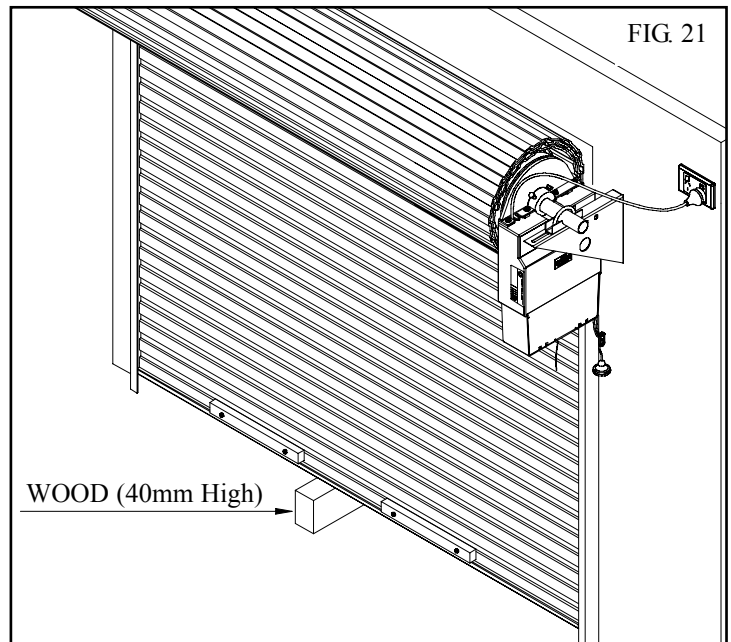

FIG. 21
2. Place a length of timber 40mm high on the floor directly under the door (**Fig. 21**).